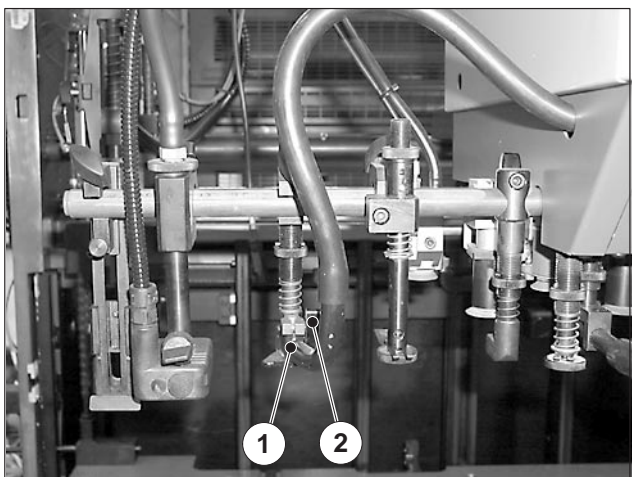

Fig. 34 Adjusting the rear edge blowers
1. Open the clamping (Fig. 34/2) on the rear edge blower.
- the rear edge blower (Fig. 34/1) on D.S. slightly towards the outside in the direction of the pile edge D.S.
- the rear edge blower (Fig. 34/1) on O.S. slightly towards the outside in the direction of the pile edge O.S.
3. Close the clamping (Fig. 34/2) on the rear edge blower.